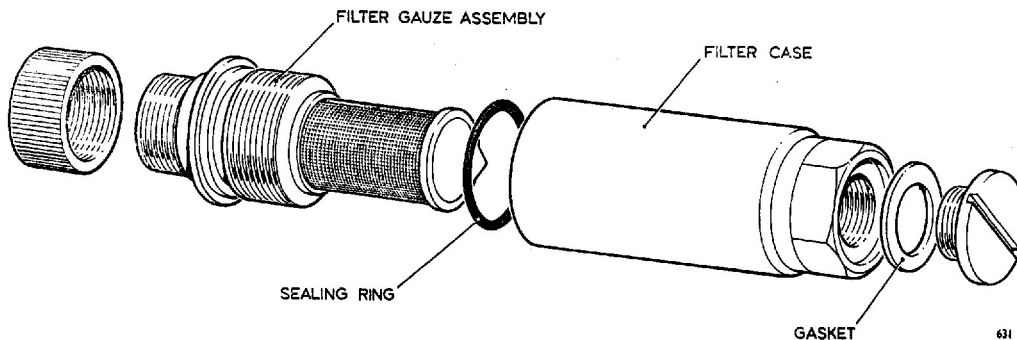

Fig. 3. Filter assembly PS3 Mk. 4
12. The filter assembly (Fig. 3) comprises a gauze assembly screwed into a cylindrical case. The gauze assembly has a 100 mesh filter element and is sealed to the filter case by an 'O' type sealing ring.